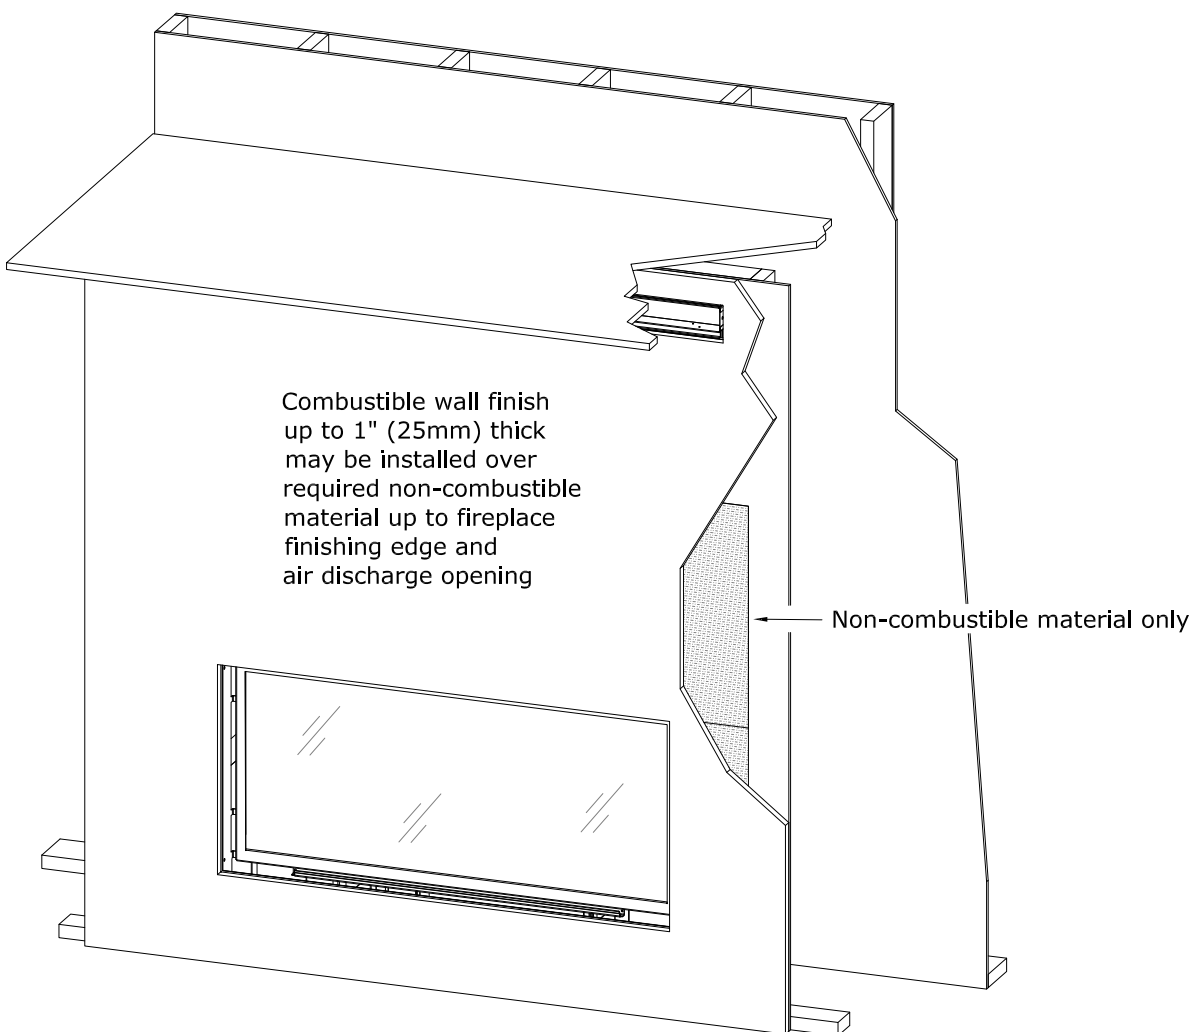

Figure 3.8 - Front View of Combustible Wall Finish
- Figure 3.8 shows the front facing view of the combustible wall finish for both the Nordik 48TL and 60TL. The 1" combustible facing material can go up to the finishing edge of the fireplace.